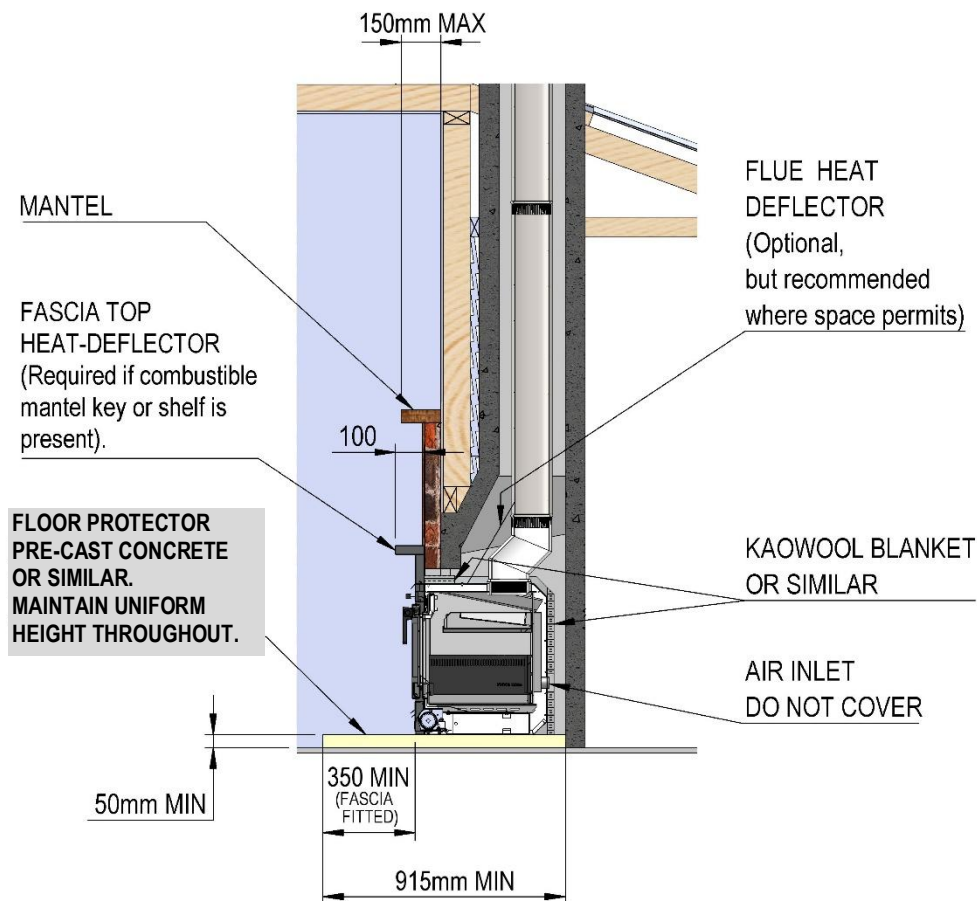

Fig. 6
- F1.** Masonry installation must have a minimum of 1300mm from the underside of a combustible mantel shelf to the top of the appliance hearth. The mantel shelf must not protrude further than 150mm into the room. [This measurement is taken from the wall. Refer fig.6]
- N1.** The floor protector extension from the unit (Fig. 6) can be reduced if the unit is elevated.